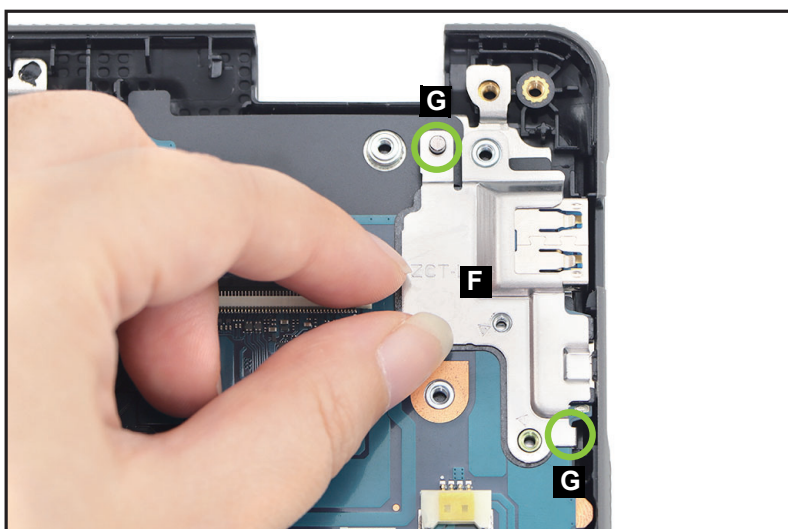

Figure 1-30. Mainboard Removal
7. Release the I/O bracket (F) from the guide pins (G) on the top assembly (Figure 1-30). Then remove the I/O bracket.